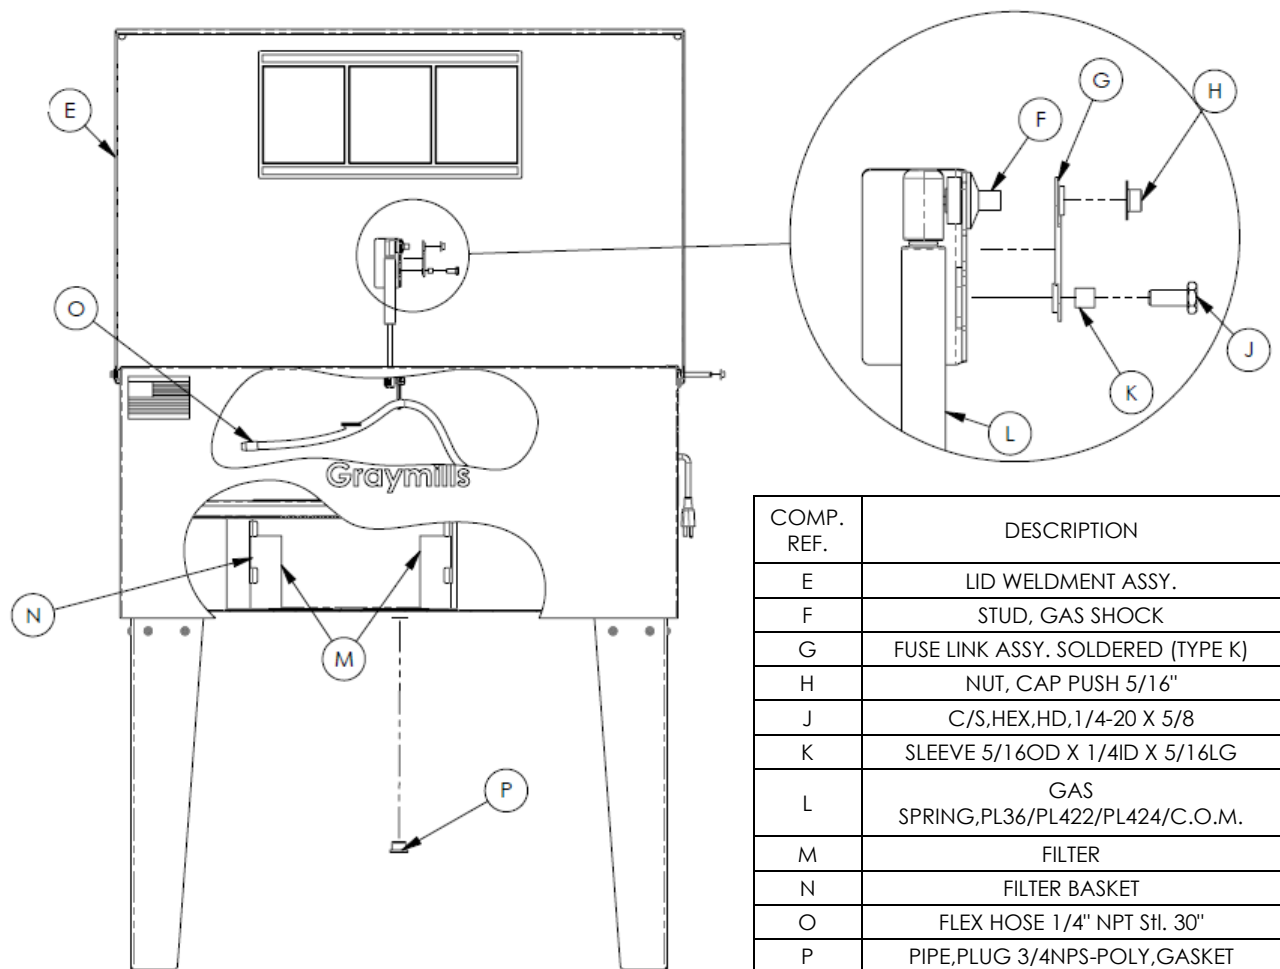

FIGURE 2
Open the automatic Safety Cover (FIGURE 2(E)) on your Handi-Kleen and you will notice that it lifts simply and easily with one hand. There is nothing to connect or disconnect to open or close the cover.
Your Handi-Kleen cover is equipped with a two-way gas spring (FIGURE 2(L)) that also incorporates a fusible link (FIGURE 2(G)). When open, the cover mechanism supports the cover at a slightly forward angle. This angle is necessary to assure the cover's fusible link will operate in the unlikely event of fire in the tank. In the event of a fire, the fusible link will melt at 165°F permitting the lid to slam shut, reducing oxygen supply to the fire.
The filter basket (FIGURE 2(N)) rests on the tank floor for the PL364 and hooks to the back of the tank on the PL424, underneath the work shelf and is easily removed for cleaning. Solvent flows from the flex hose (FIGURE 2(O)) onto the work shelf and drains through slots in the back of the work shelf into the filter basket located at the middle rear of the tank. Heavy soils will drop to the bottom of the rectangular container. Solvent will then flow through the filter pad (FIGURE 2(M)) and back into the tank.
To maximize fluid life, sludge collector basket (FIGURE 2(N)) and foam filter blocks (FIGURE 2(M)) should be cleaned regularly. At least once a week, lift out, drain sludge, and rinse filter element.
- Remove the flexible hose (FIGURE 2(O)) from the "L" support bracket, aim it over the tank sides into a proper container and remove all but the last 1" of solvent using the pump.
- Open the drain (FIGURE 2(P)) located in the center of the tank bottom to allow the remaining sludge to drain into a dirty pail.